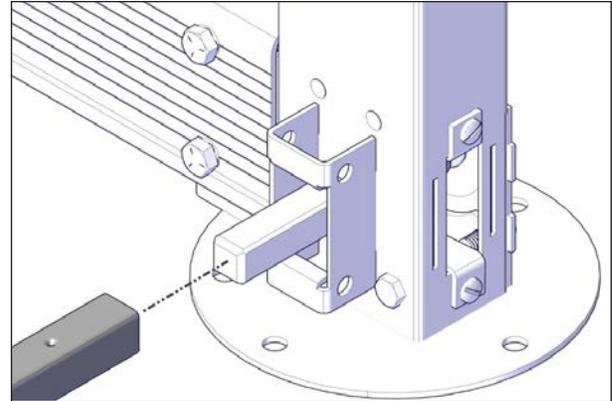

FIGURE 19: DRIVE SHAFT INSTALLATION
8. Slide the drive shaft over the square shaft located at the bottom of the left motor-side jack assembly, see Figure 19.